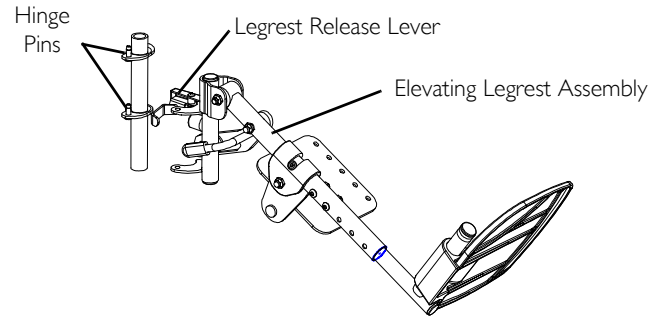

FIGURE 3 Installing/Removing Elevating Legrest Assembly
- i** For this procedure, refer to FIGURE 3 on page 33.